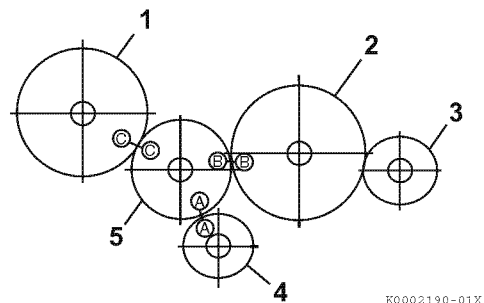

**Figure 6-39**
4. Remove the gear case cover (**Figure 6-39, (1)**).
5. Remove the dowel pins (**Figure 6-39, (3)**) and O-ring (**Figure 6-39, (2)**).